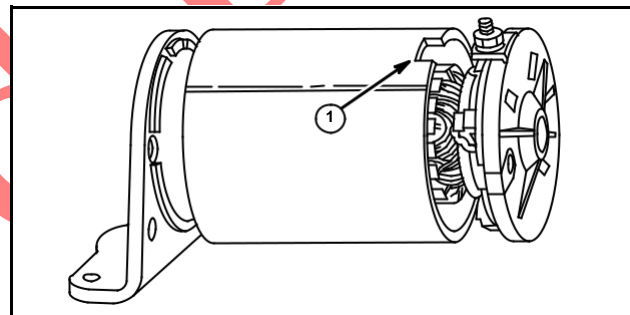

Fig. 80
This design of starter housing has a large notch (1) which indexes over the insulated terminal, Fig. 80.